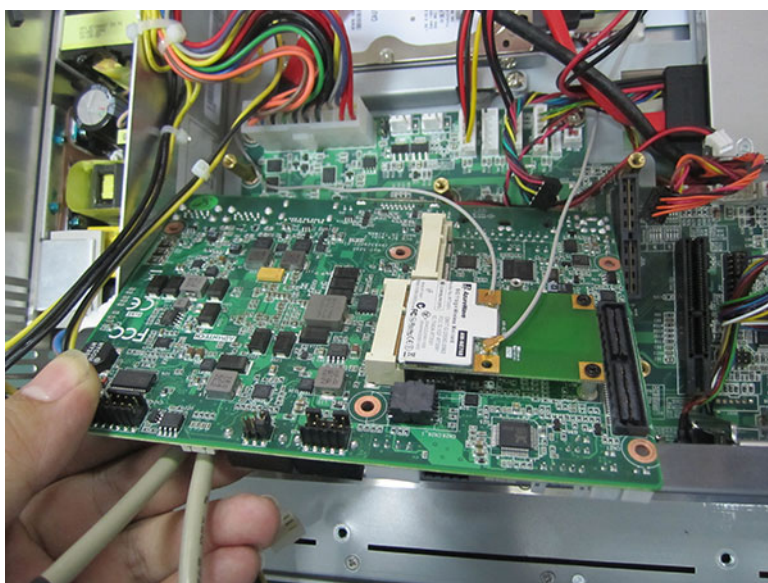

Figure 2.32
5. Connect the antenna to wireless LAN card, the wiring method of the long card is shown as Fig 2.32.